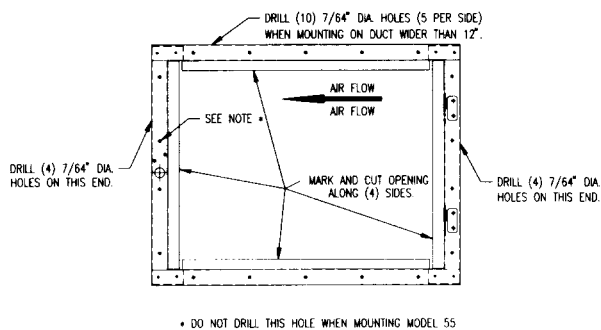

FIGURE 9
- 1. At the selected location, hold the mounting frame on the bottom horizontal side of the duct with the long sides of the frame parallel to the length of the duct, and the end with the hinges toward the heating unit so that the air flow is in the direction indicated in Figure 9.
6. Now mount the mounting frame on the duct with the screws provided, in the direction as shown in Figures 9, 10, 11 while making certain of the correct direction of air flow.